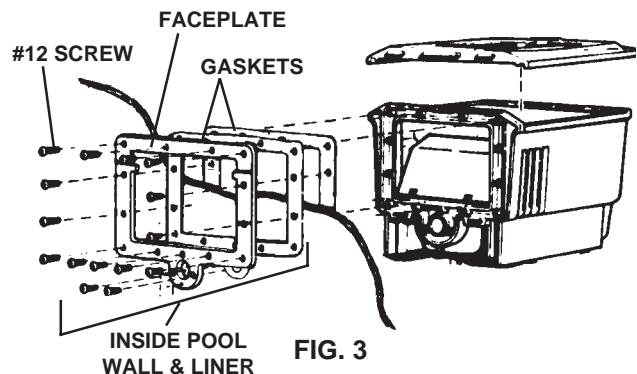

FIG. 3
4. Reach over the top rail and carefully press the liner against the skimmer cutout in the wall. Punch out the two top corner holes using a nail. Place one skimmer gasket (21) on faceplate (20). Insert two large self-threading screws (19) into top corner holes. With these screws protruding through the top corner holes of the gasket (21), carefully push the screws through the holes which have been pierced in the liner. Place the second gasket (21) on the exposed screw threads outside the pool wall. From the outside of the pool, align the skimmer with these screws. Lightly tighten the two screws (Fig. 3).